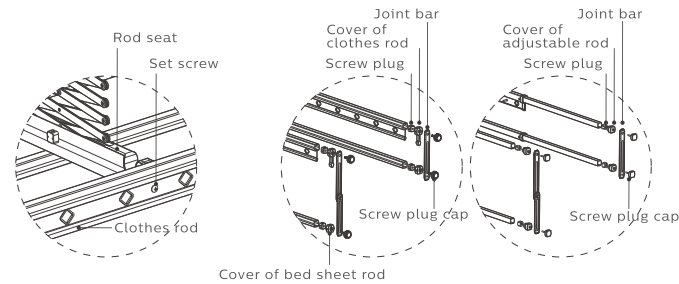

Figure 6
1. As shown in Figure 6, remove screws from rod seat, align positioning holes on rod with rod seat, then fix with screws.